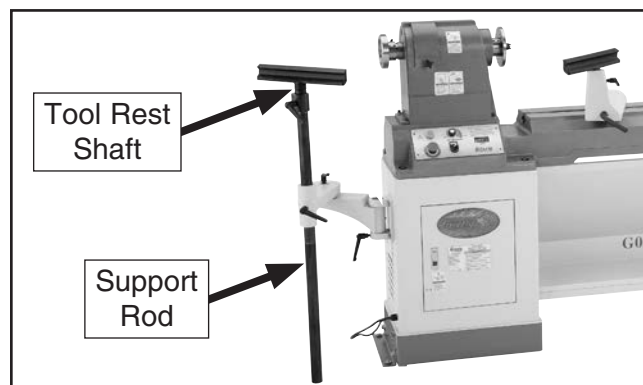

Figure 54. Locations to lubricate outboard tool rest.
2. Place several drops of light machine oil on a rag and wipe it up and down the tool rest support rod (see **Figure 54**).